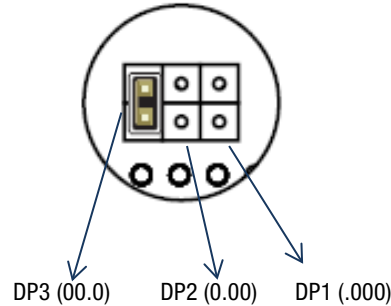

Figure 4: J3 Decimal Point Selection
3. Decimal Point Selection Jumper Settings: Refer to Figure 4 to select which decimal point (if any) needs to be illuminated for the chosen application. If no decimal is needed, do not install jumpers in any of these three locations. Please note, decimal point selection has no effect on the meter's operation, gain offset adjustments, or resolution/sensitivity of the meter's analog to digital conversion circuitry. Illuminated decimal points only serve as visual placeholders to show correct display readings of the physical parameter being measured.